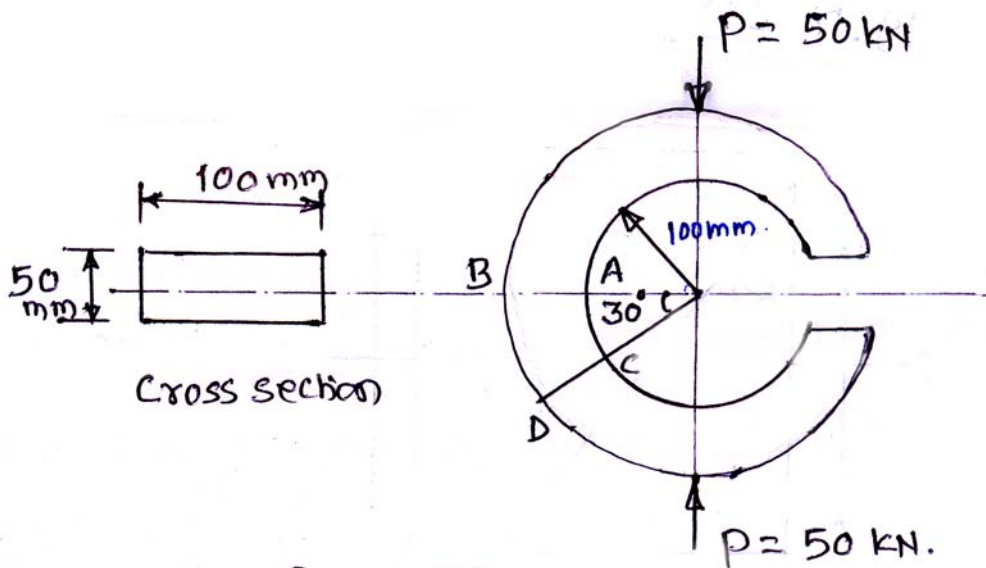

Fig. 5. (b)
- b) The circular link shown in fig. 5(b) has a rectangular section 100 mm wide by 50 mm thick. Compute the stresses at A & B and C & D. 8